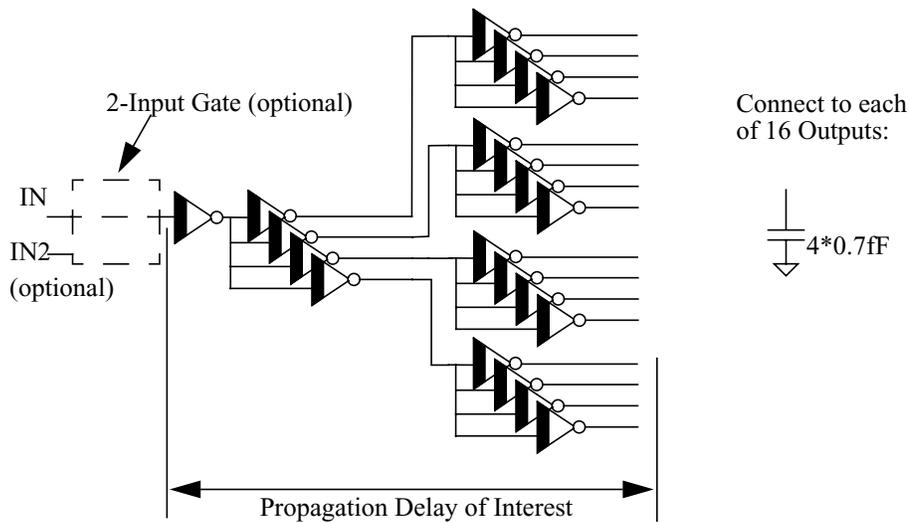

Figure 3: Sizing Sleep Device(s) for an Inverter Tree
c) Refer to Figure 3. Try to minimize standby leakage current. You may use any number of sleep devices with or without sharing. You also may insert a 2-input gate into the dotted box. Use HSPICE to minimize standby leakage current while maintaining no more than a 10% delay penalty. Turn in ONLY the following: